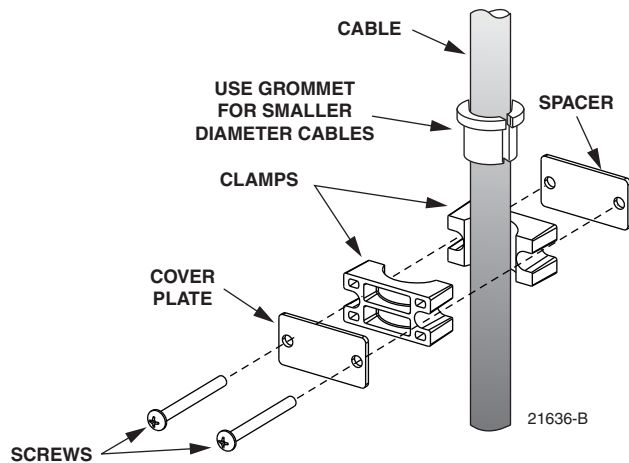

Figure 29. Cable Clamp Assembly
7. Assemble each pair of clamps (and grommet if required) on the cable as shown in Figure 29 and secure the cable to the cabinet at the selected cable clamping position.